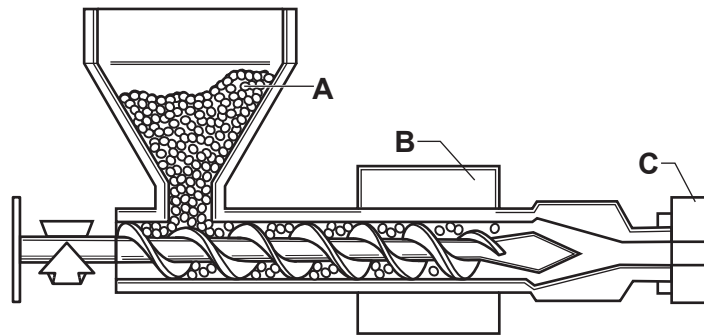

Fig. 13.2
- (b) Fig. 13.2 shows a sectional view of a machine used to manufacture the acrylic tube.
(ii) Complete the words for each of the labels, **A**, **B** and **C**, shown in Fig. 13.2.